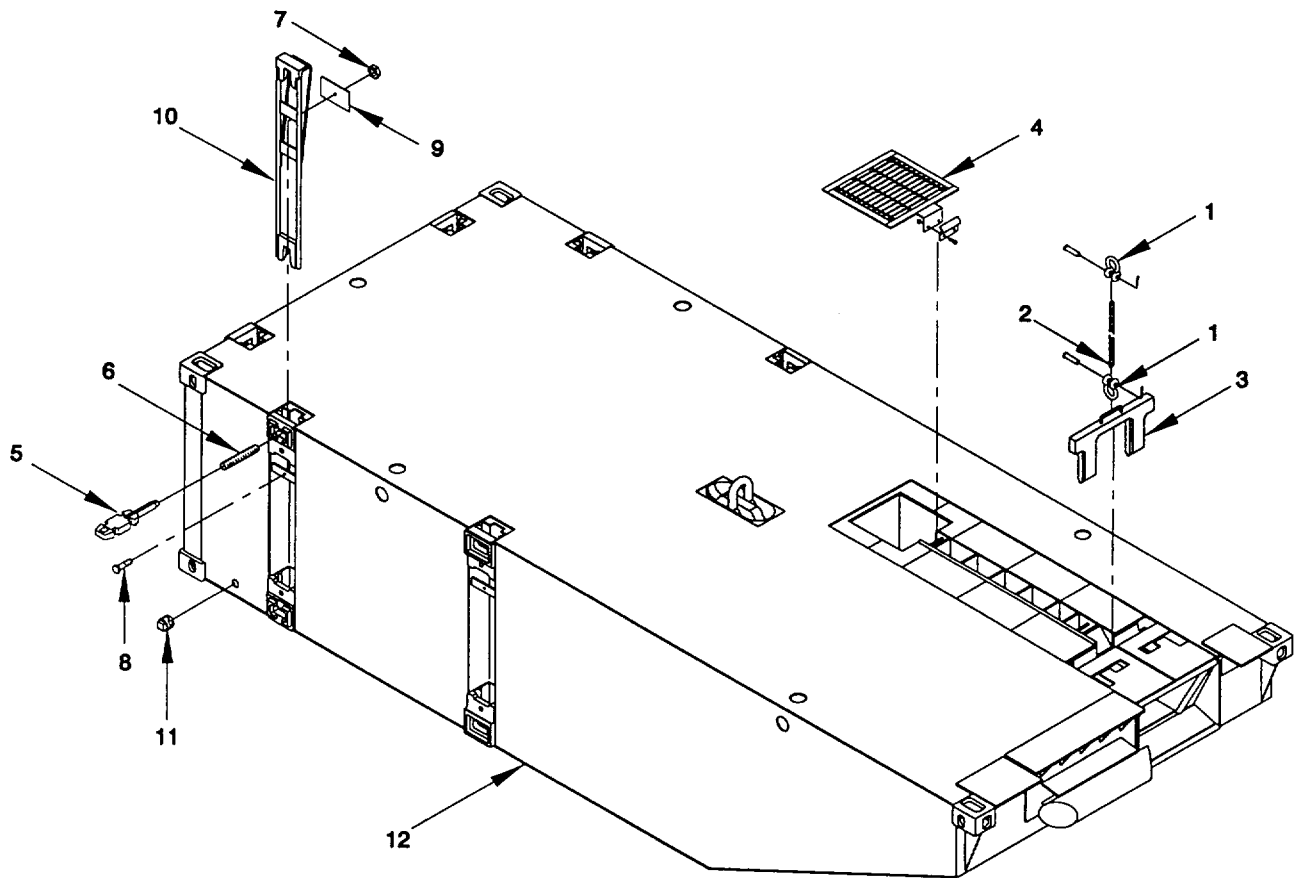

Figure 2-88. P20LR 20' Left Raked Pontoon Assembly, Service/Repair.
a. Service. (figure 2-88)
- (1) Lubricate end rake hatches and hinges.
- (2) Check connector assemblies.
- (3) Push up on retainer on underside of connector pin to release pin from male connector assembly housing. Remove connector pin to expose deployment spring. Remove spring and inspect spring for cracks or cuts (replace as necessary) Lubricate spring using a light coat of lubriplate grease. (4) Use a sponge to remove water from lift shackles.
- (5) Wire brush and spot paint any exposed or rusting surfaces.
b. Repair. (figure 2-88)**NOTE**